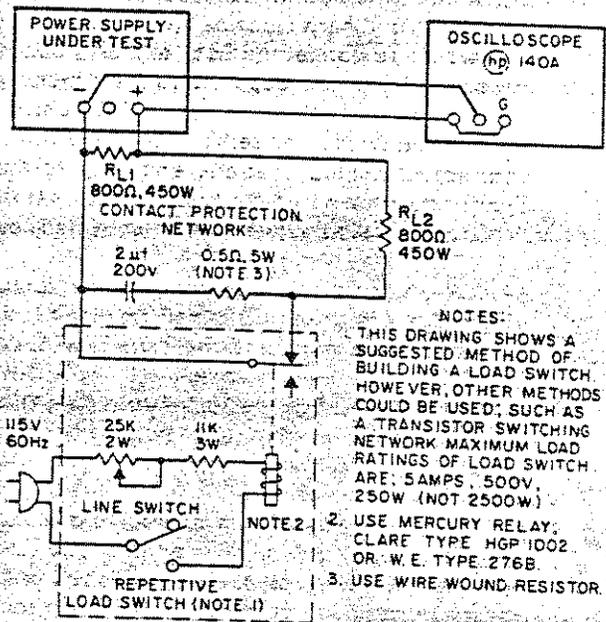

Figure 5-6. Transient Recovery Time, Test Setup
5-30 A mercury-wetted relay, as connected in the load switching circuit of Figure 5-6 should be used for loading and unloading the supply. When this load switch is connected to a 60Hz AC input, the mercury-wetted relay will open and close 60 times per second. Adjustment of the 25K control permits adjustment of the duty cycle of the load current switching and reduction in jitter of the oscilloscope display.
- Connect test setup shown in Figure 5-6.